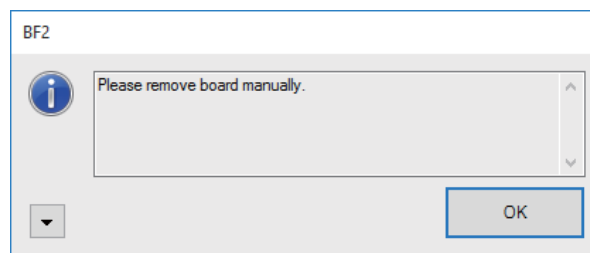

Figure 1-20 Remove Board Setting 1
Step3: Auto inspection result is NG or Warning, the dialog box shown in Figure 1-20 appears. The board is moved to PCB exit or entrance position of the machine. Remove the board manually and click **OK**.